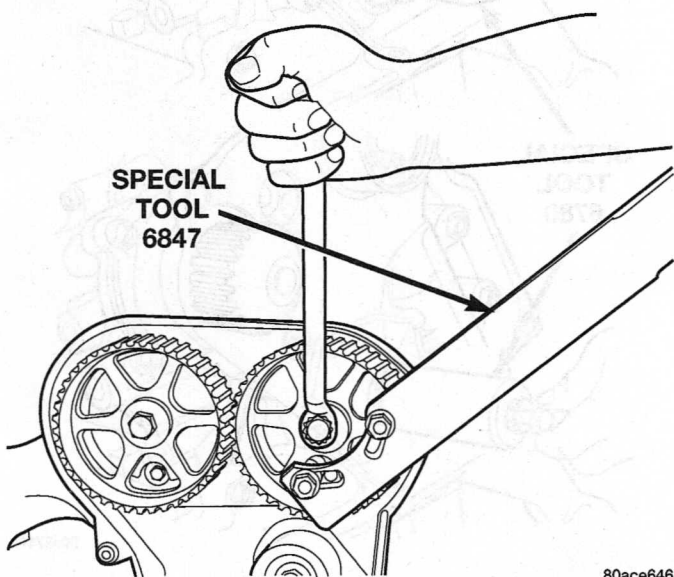

Fig. 69 Camshaft Sprocket—Removal/Installation
- (1) Remove front timing belt cover and timing belt. Refer to procedures in this section.
- (2) Hold camshaft sprocket with Special Tool 6847 while removing center bolt (Fig. 69).
- (3) Remove rear timing belt cover. Refer to procedure in this section.
- (3) Install rear timing belt cover. Refer to procedure in this section.
- (4) Install camshaft sprocket. While holding sprocket with Special Tool 6847, tighten center bolt to 101 N·m (75 ft. lbs.) (Fig. 69).
- (5) Install timing belt and front covers. Refer to procedures in this section.